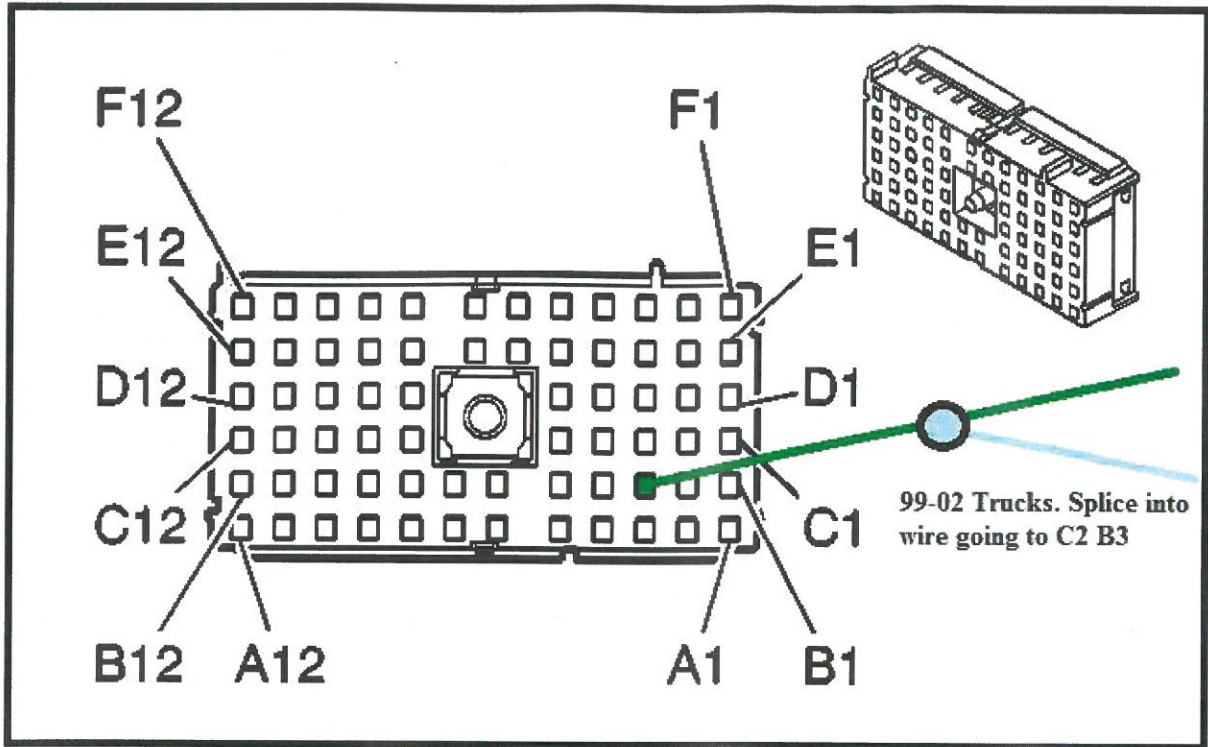

Figure 3 Fuse block splices
- D. For 99-02 models tap the light blue wire from our harness into the dark green going to position B3. For 02+ models go to position A3. *(Figure 3)*